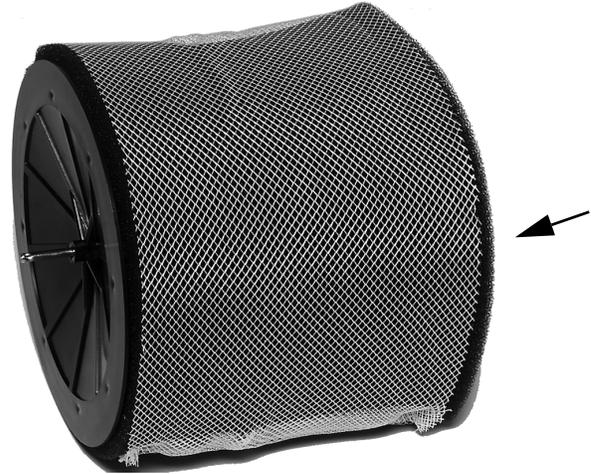

Fig. 18. Installing Humidifier Pad.
3. Slide Humidifier Pad over closed drum end posts. See Fig. 18.